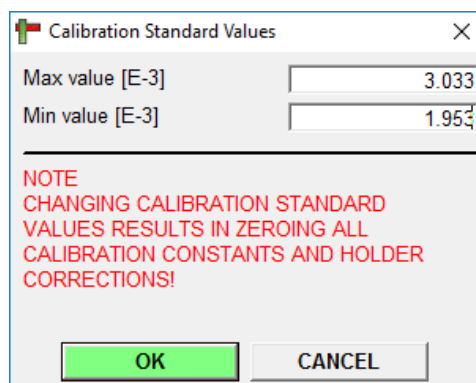

Figure 12: An example of the **Calibration Standard Values** window.
1. Go to: **Settings** >> **Calibration Standard** to launch the **Calibration Standard Values** window (Figure 12).